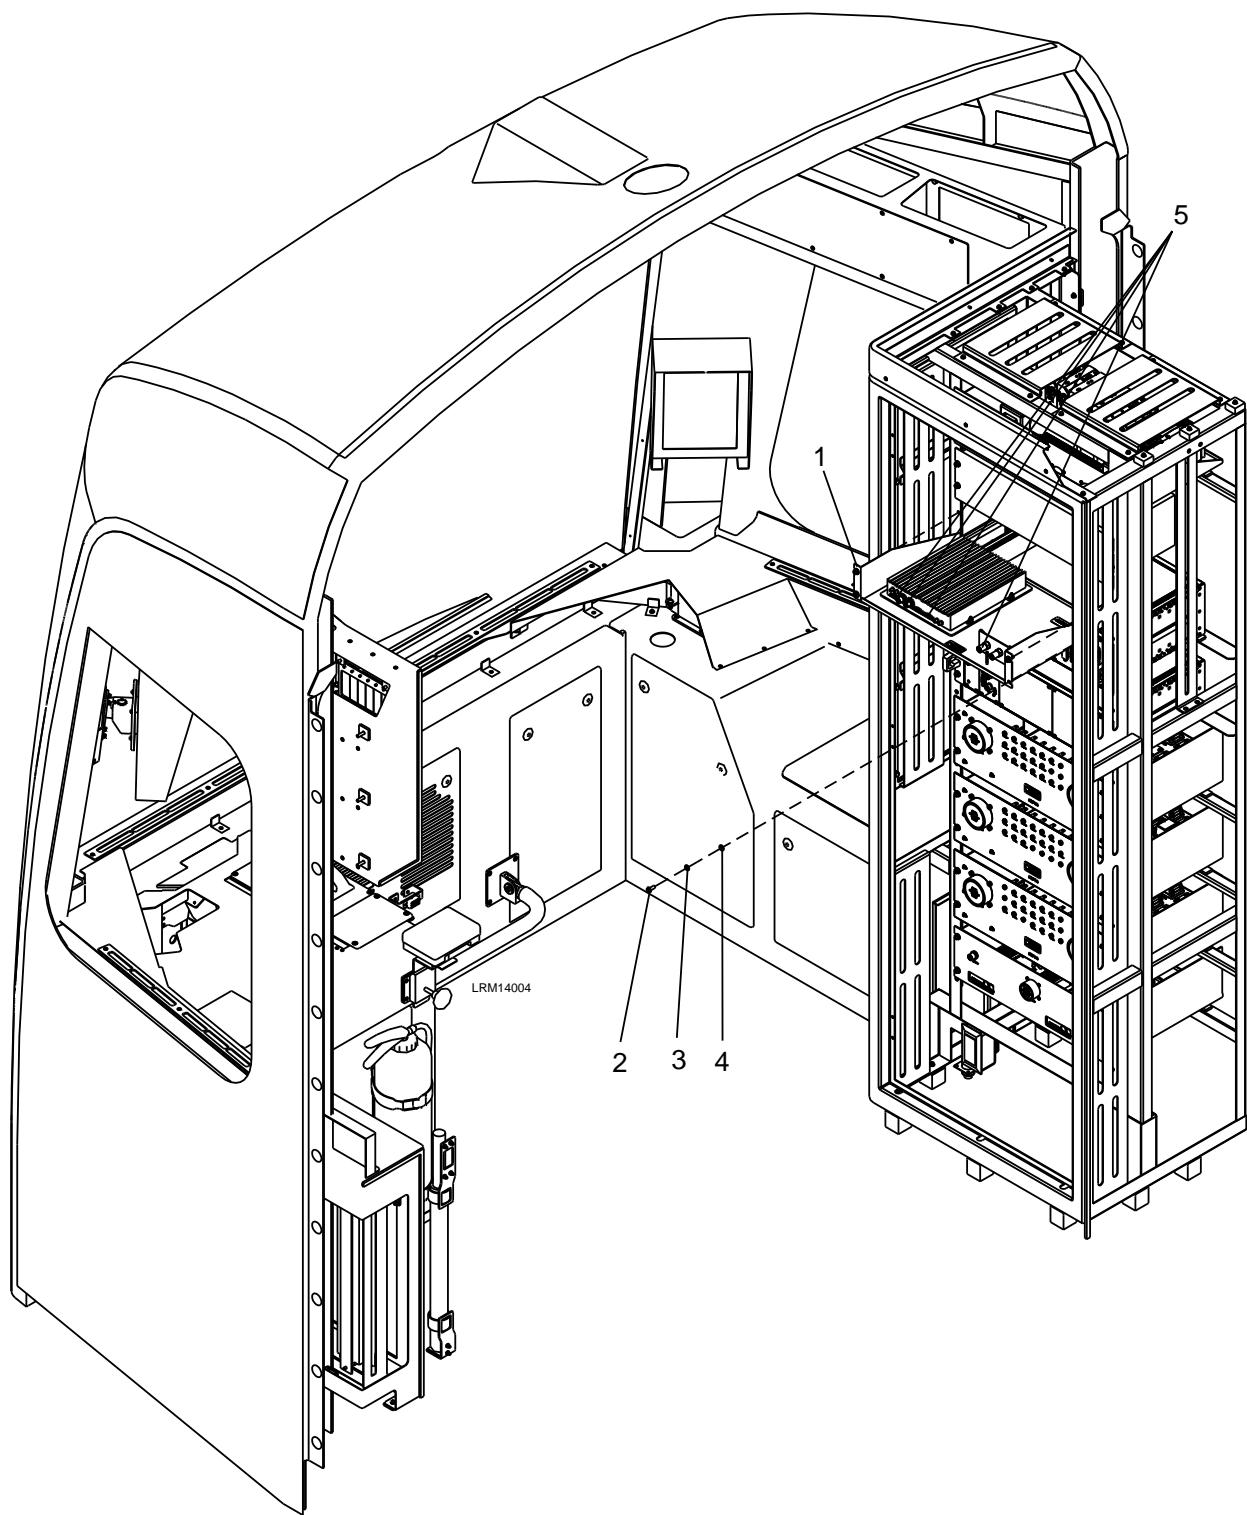

Figure 8-1: Communication Control Unit (CCU) Panel
2. Disconnect the electrical connectors (5) to the CCU (1). See Figure 8-1.
3. Remove the four M6 x 16 screws (2), M6 lock washers (3), and M6 plain washers (4).
4. Carefully remove the CCU (1).